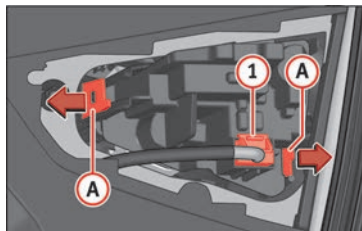

Fig. 118 Remove the bulb holder.
4. Remove the bulb connector » **Fig. 118** ①.
5. Remove the bulb holder unlocking the retaining tabs (A).